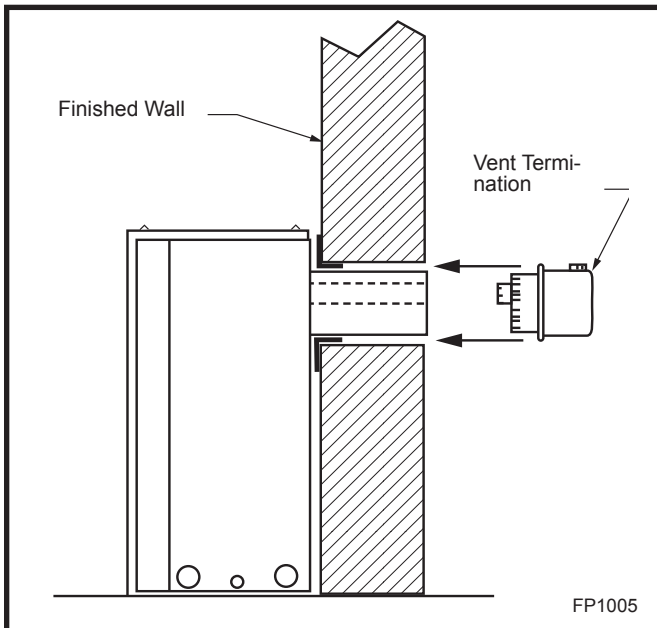

Fig. 18 Side view of final unit location.
Slip 4" and 7" pipes onto respective flue collars. Make sure to fix to the fireplace collar the 4" pipe with three (3) screws before fixing the 7" pipe on the 7" collar. Both pipes must be on a level plane. (Fig 18)
Guide the vent termination 4" collar into the 4" pipe then the 7" collar into the 7" pipe. Do not force the venting into position. If the pipes do not line up with the termination collars, disassemble pipes and reattach to the fireplace collar. (Fig. 18)